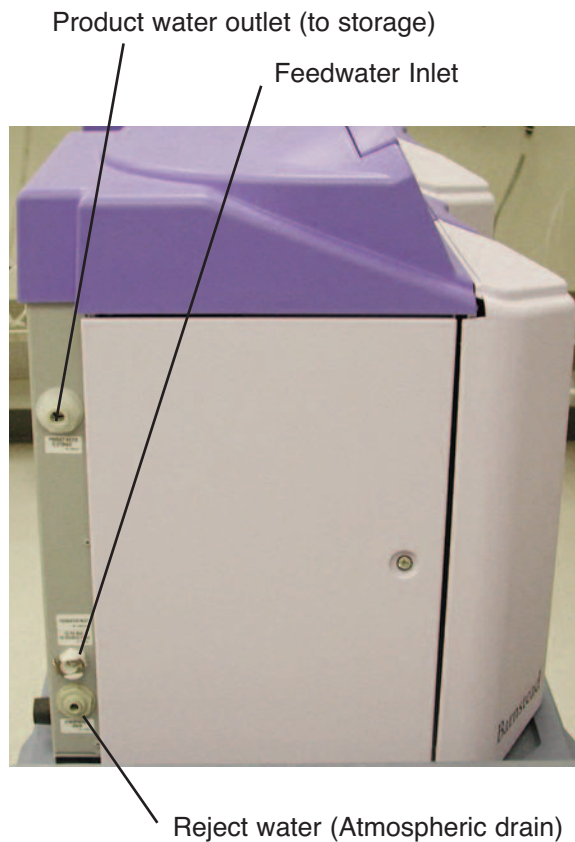

Figure 4-11. Water Connections
2. Connect water supply to unit by inserting the quick disconnect into the feed water inlet on the lower left side of the RO (see Figure 4-11.) Turn on main water supply. Turn the system power On by depressing the Main Power Switch to the "I" position. The 9 LEDs will sequentially flash, testing the LEDs to make sure they are not burned out.